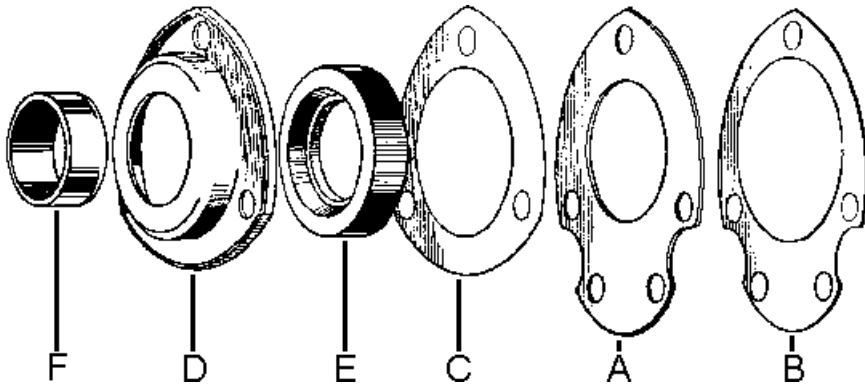

Fig. D11a. *The Oil Seal Assembly.*
Next secure the gearbox mainshaft ball race and layshaft bush retaining end plate (A) Fig. D11a. part number 90-0133, on the nearside case with its two  $\frac{3}{16}$  in. cheese-headed screws, followed by the triangular oil seal housing washer (C) part number 90-0073, the mainshaft oil seal housing (D) part number 90-0072, and the oil seal (E) part number 89-3006, with the steel sleeve (F) part number 90-0071, in the centre of the assembly. Note that a gasket (B) is fitted between the end plate and the crankcase.